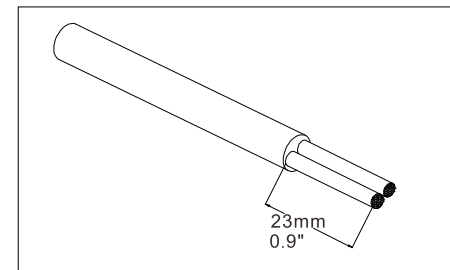

Figure 2
- Stripping the outer cable sheath 0.9 "(23mm) (Figure 2).
- **Insulation core length reference:** Figure 2